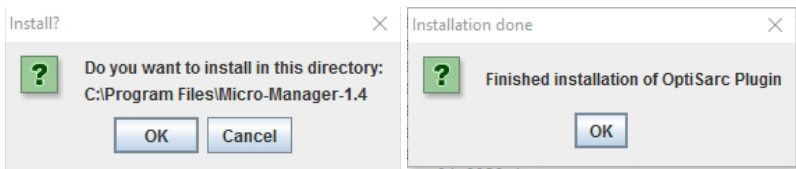

Fig. 8–(Left) Click OK on the installation confirmation message to complete the install. Fig. 9–(Right) Installation complete message appears.
6. Another message appears indicating that the installation is complete (Fig. 8). Click OK.